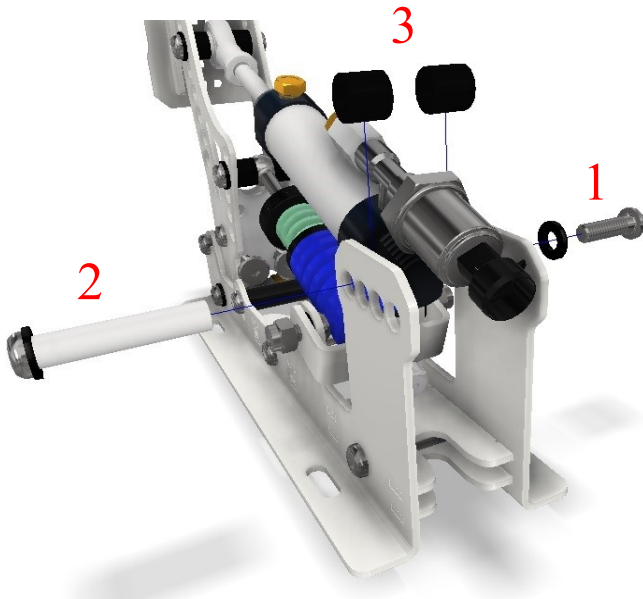

Fig. 8. Sequence of fasteners of the piston base
- C. screw in the correct sequence of elements [Fig.8]